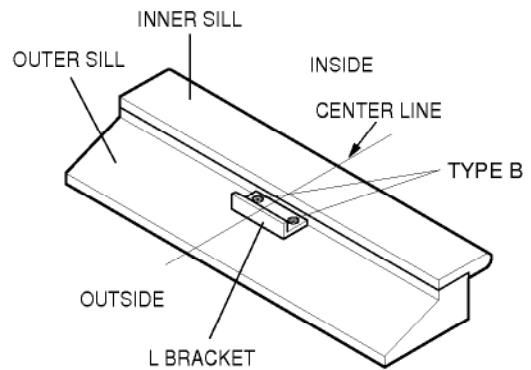

Figure 29
- b. Bracket helps to hold unit securely in place. Be sure to place bracket edge flush against back of inner sill. See Figure 29.
- a. Carefully lift the air conditioner and slide it into the open window. Make sure the notch of the bottom guide fits over the **L** bracket and pops into place. See Figure 29.